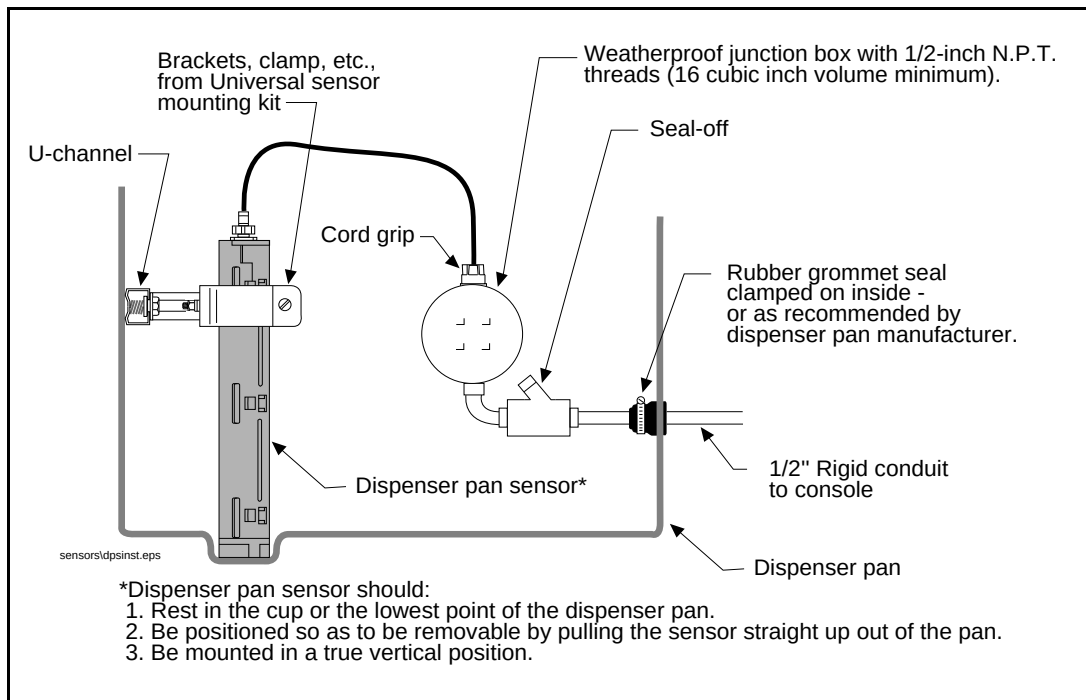

Figure 1. Typical Dispenser Pan Sensor Installation
4. Install the mounting hardware according to the instructions provided with the Universal Mounting Kit. Refer to either Figure 1: "Typical Dispenser Pan Sensor Installation" or Figure 2: "Typical Dispenser Pan Sensor Installation in a Dispenser Containment Sump" (whichever most resembles your installation). These examples apply to all Solid-State Discriminating Dispenser Pan, Discriminating Dispenser Pan, and Solid-State Dispenser Pan Sensors.